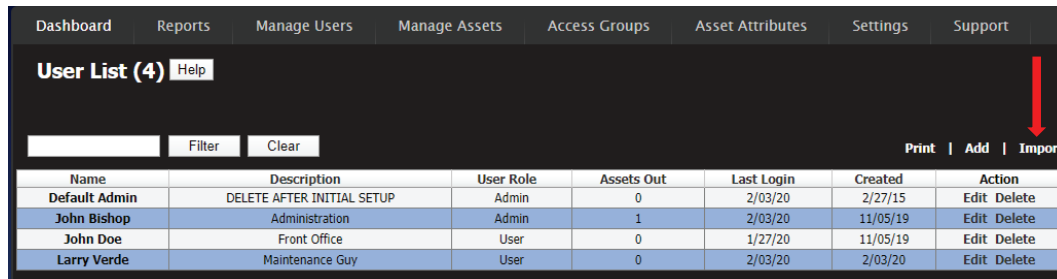

Figure 5: Import User Button
- In the upper right of the Users screen, select Import (figure 5).